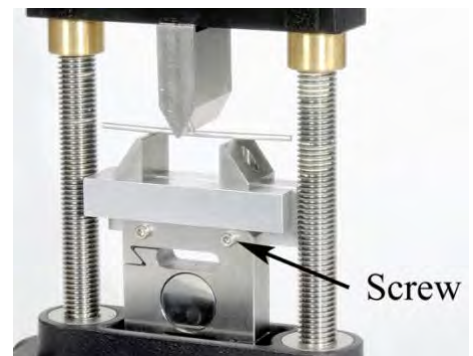

Figure 4: Three-point Bending
2. Other accessories, such as Three-point Bending Accessory use the through-holes in the Load Cell, as shown in Figure 4. The upper load Anvil attaches to the Cross-head using the knurled cap nut, as before.